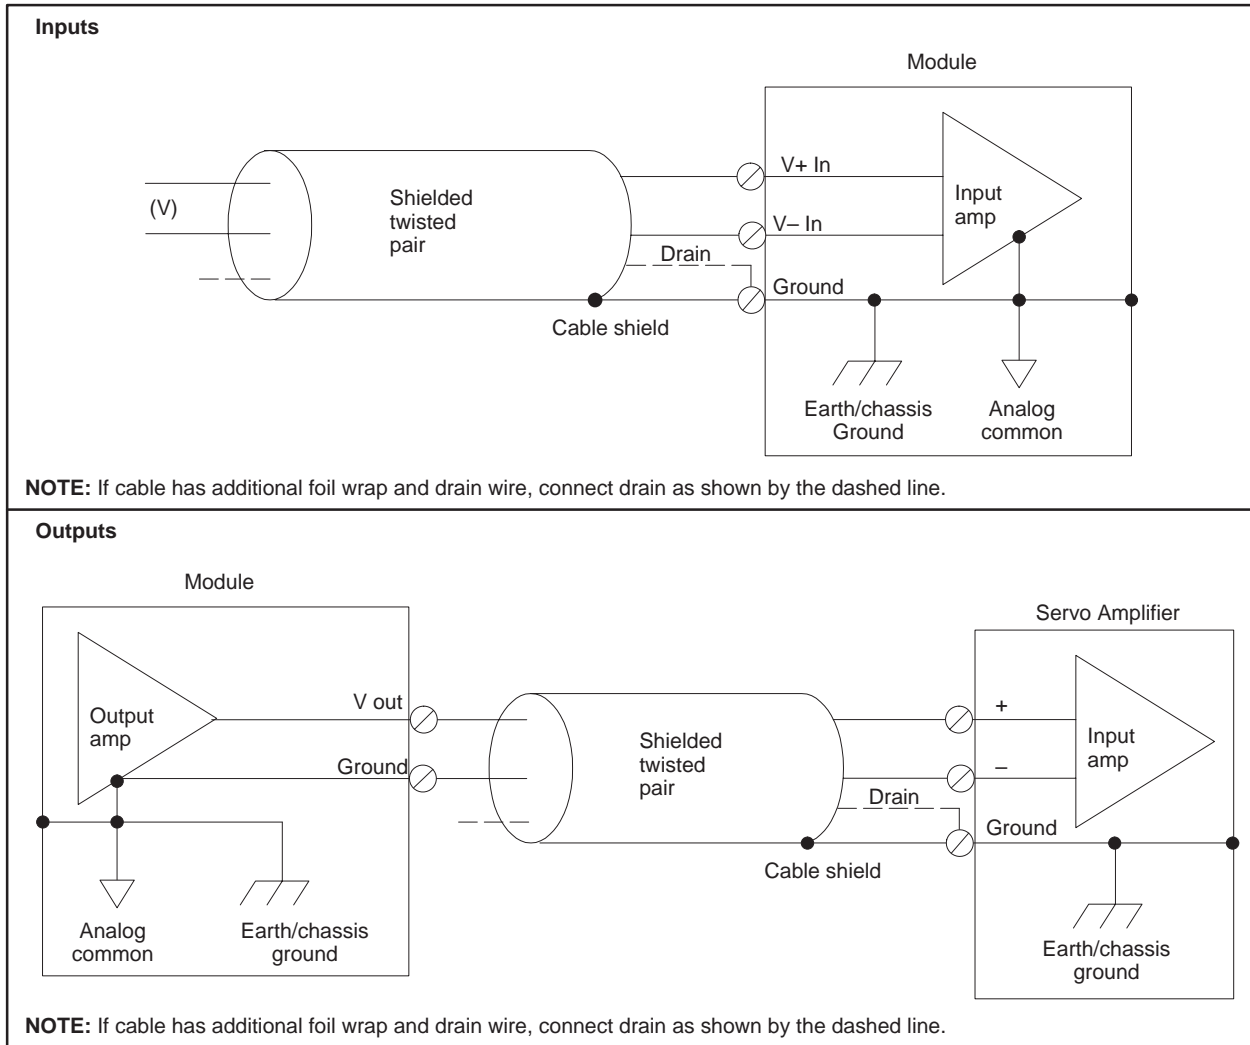

Figure 2-6 Module Input/Output Wiring
- Ground all shields at the module or amplifier input end as shown in Figure 2-6.